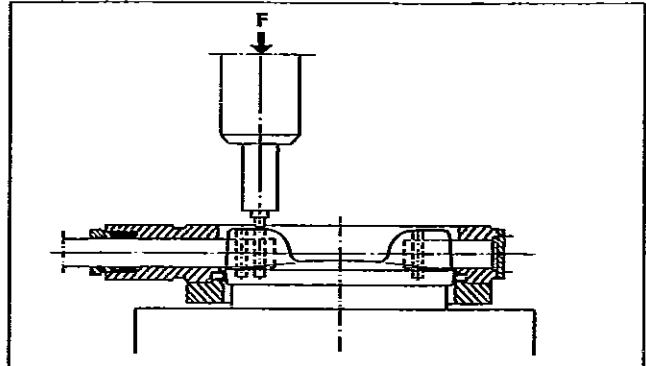

Fig. 17. Pressing the pins
- Support the disc well in a horizontal position during mounting of the pins. Push the new pins into the holes and press them in a press to final form (see Fig. 17). Use a smaller tool than the pin diameter. See Table 5 for force needed.